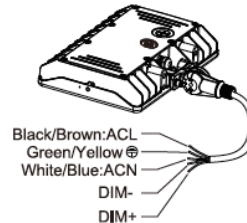

Fig. 16
2. Connect the line, neutral and ground wires. Secure them safely according to local code. (Fig. 16).